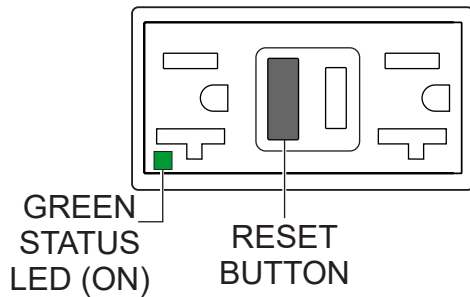

Figure 83. GFCI Receptacle (ON/Restore)
5. Press the **RESET** button (Figure 83) to restore power to the GFCI receptacle and verify that the status LED is **ON (GREEN)**.